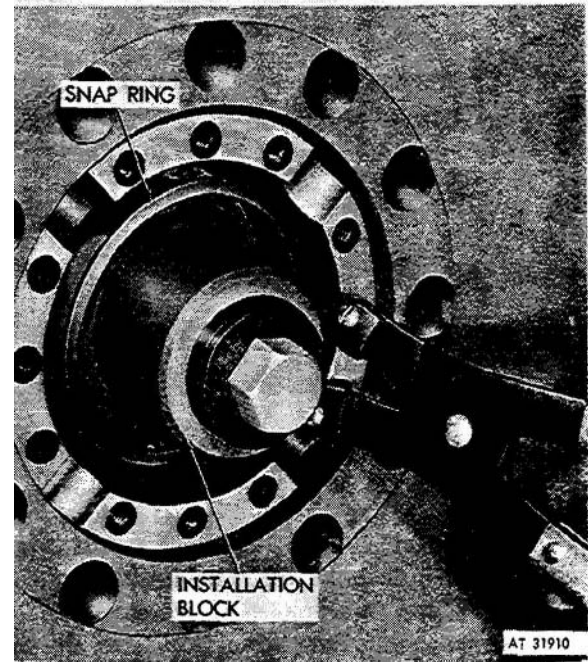

Figure 3-114. Using installation block (11660108) to install snap ring.
should be located against installation block end face and concave face should mate with convex face of other washer. Tighten nut (2) until retaining ring (10, fig 3-99) sets firmly against shoulder of housing (18). Remove two alignment pins (11660109). Install snap ring (11, fig 3-99) as shown in figure 3-114.